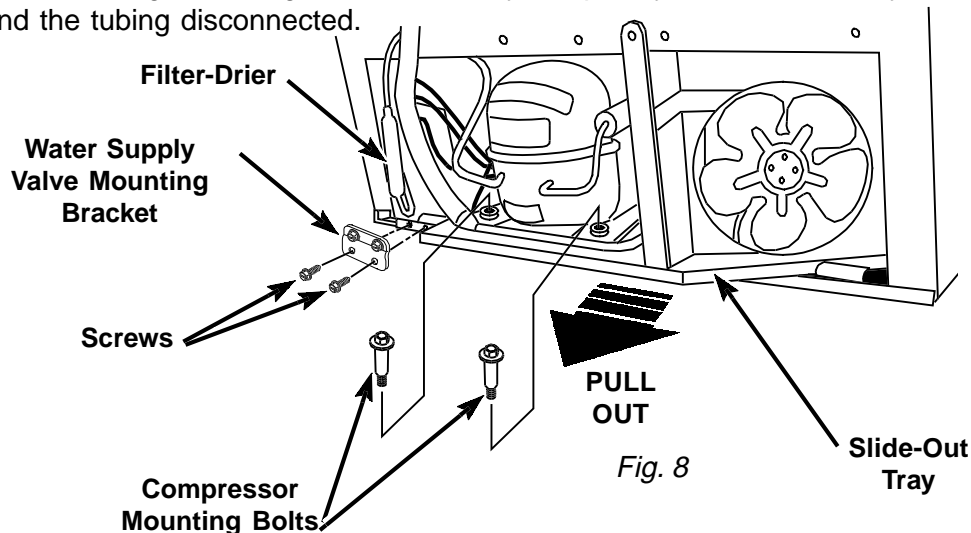

Fig. 8
4. Remove the two (2) screws securing the water supply valve to the base rail. (Fig. 8) **NOTE:** If a water supply valve is mounted on the bracket, it is not necessary to disconnect the copper supply tubing or the plastic supply tubing.
5. Remove the two (2) compressor mounting bolts securing the slide out tray to the lower rear cabinet rail. (Fig. 8)
6. Carefully slide the tray out from the unit. (Fig. 8) **NOTE:** The tray can only slide out a few inches without kinking the tubing. To slide the tray completely out, the sealed system must be purged and the tubing disconnected.